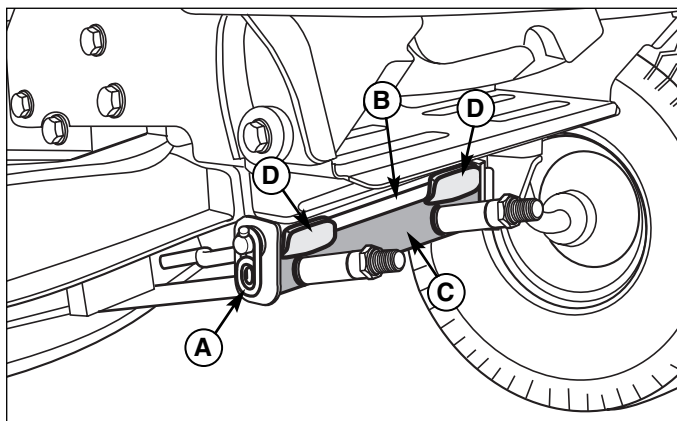

Figure 14. Mower Hitch
5. Turn wheels straight ahead. Support the mower hanger (C, Figure 14). Remove safety clip (A) and rod (B). Lower the mower hanger (C).
3. Turn wheels straight. Lift the mower hanger (C, Figure 14). Insert rod (B) through mower hanger (C) and tractor brackets (D). Secure with safety clip (A).